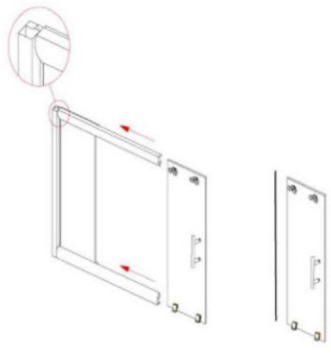

Fig 6
11. Attach one sealing profile (16) over the fixed glass panel (6). Attach the magnetic profile (17) to the wall side of the sliding door (7). Attach the sealing profile (16) to the other side of the sliding door (7).
12. Place the sliding door (7) in the upper rail profile (14), as shown in figure 6.